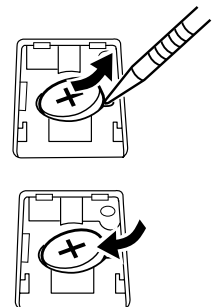

Fig. 2
- Remove the exhausted battery and install one new lithium battery. Wipe the battery well with a dry cloth and place the plus "+" side upward. (Fig. 2)